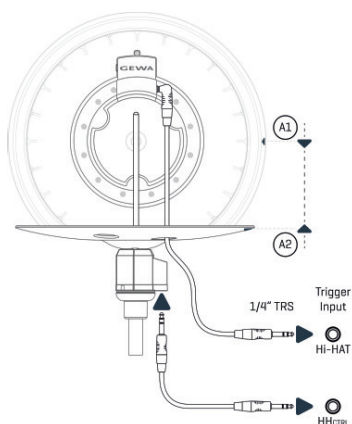

Figure 4
- 1 Take the top cymbal (C) and connect the stereo cable (angled – angled) to the jack closest to the middle hole (see *Figure 4*).
- 5 Connect the straight plug of the Stereo Controller Cable to the Hi-Hat Controller as shown in *Figure 4*.
- 6 Connect both cables to the corresponding Trigger Inputs of your drum console as shown in *Figure 4*. The naming convention regarding trigger Inputs might vary from manufacturer to manufacturer, but always offer individual inputs for Cymbal and Controller.